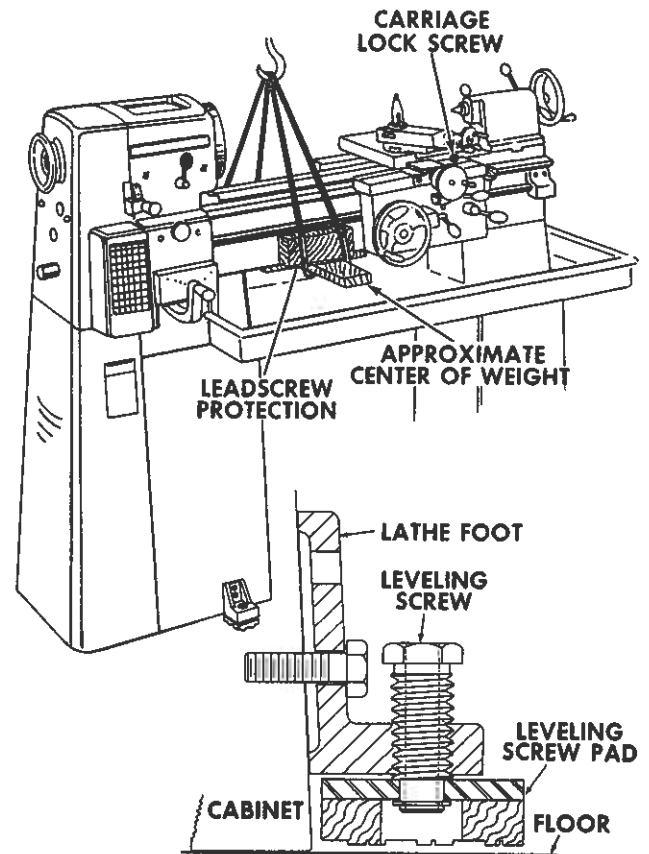

Figure 1
**CAUTION:** *DO NOT LOWER LEVELING SCREW PADS UNTIL LATHE IS READY TO BE LEVELED -- refer to figure 1.*
When using a sling -- clean bed ways, move tailstock to the right-hand end of the bed and lock it in place. To protect lead screw and bed, place a 3/4" thick hardwood board under approximate center of weight load, insert sling as shown in figure 1, and raise machine about one-inch off floor. Make any necessary adjustments for balance by moving carriage along bed. -- *Before moving carriage, loosen lock screw -- located on top right side of the carriage.*